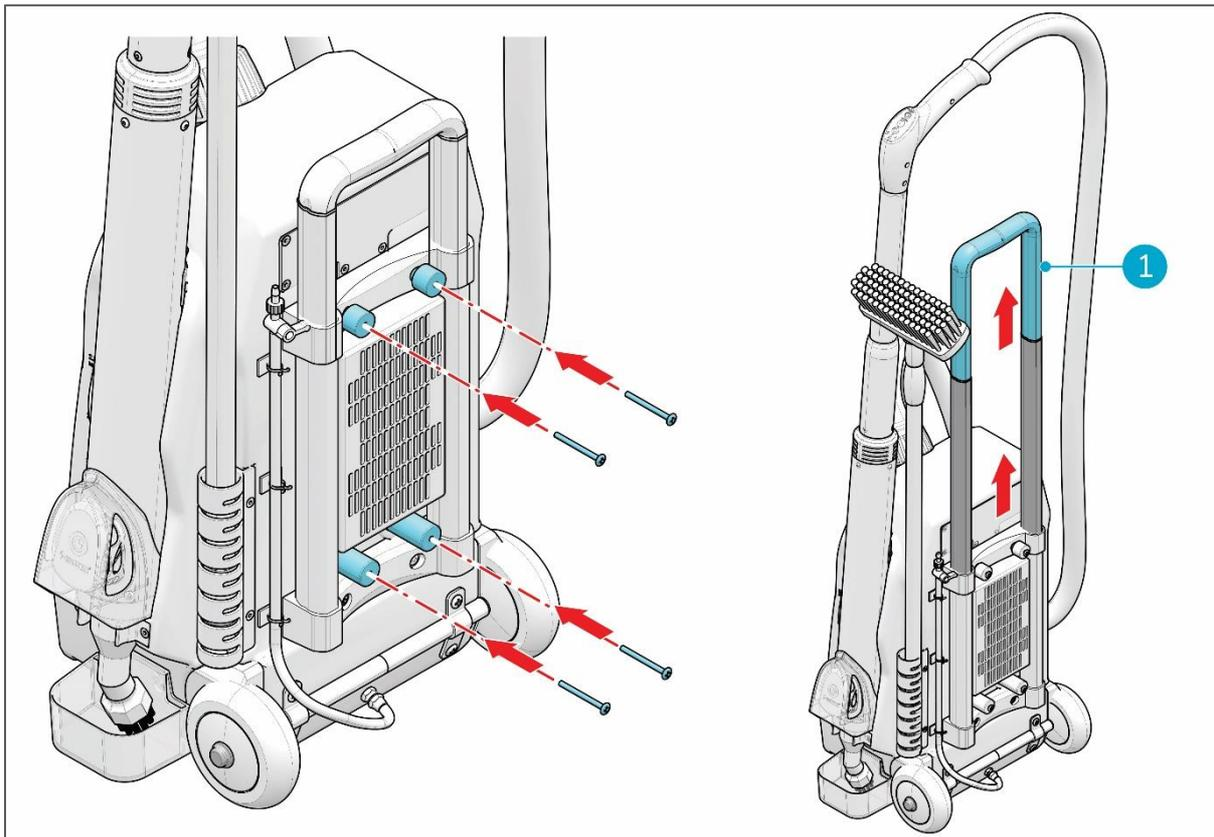

Figure 10
2. Unscrew the four screws (Figure 10, pos 1) using a Philips screwdriver.
3. Remove the back plate (Figure 10, pos 2).